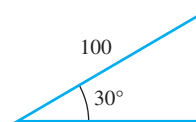

FIGURE P6.65 Triangle relationship for Problems 6.65 and 6.66.
- 6.65** (B) What kind of load is shown in Figure P6.65?
- 6.66** (H) Determine θ_v and θ_i using the value shown in Figures P6.65 and P6.66.